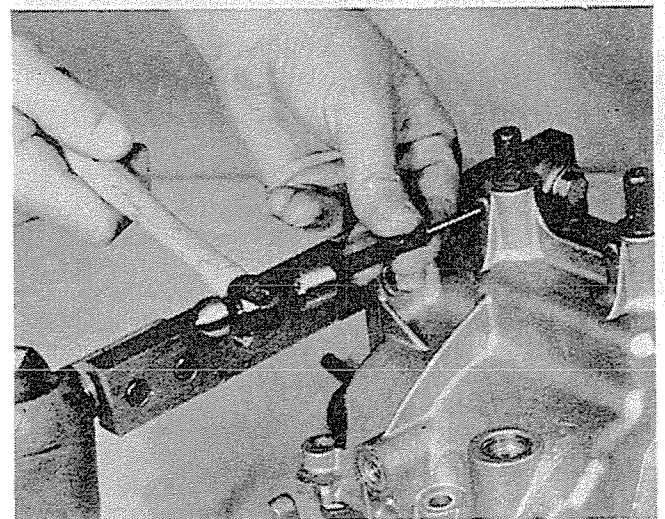

FIGURE 5
10. Using a straight punch, drive out the shifter lever retaining spiral pins. Figure 5.